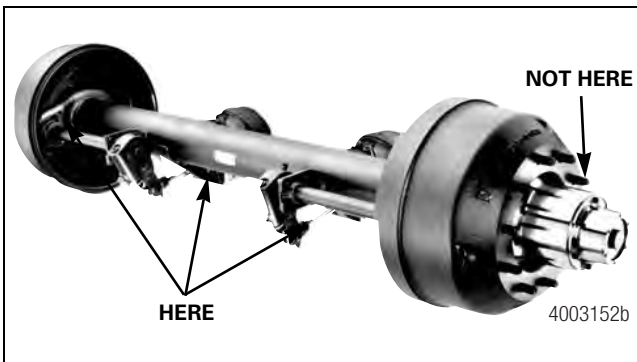

Figure 7.1
- Welding equipment should be grounded to the axle through a cable connection that is both clean and tight. The connection should be located at one of the parts welded to the axle such as the camshaft bracket, air chamber bracket or brake spider. It should not be located at a suspension spring, a U-bolt or a point that will place a wheel bearing between the ground connection and weld area. Figure 7.1.